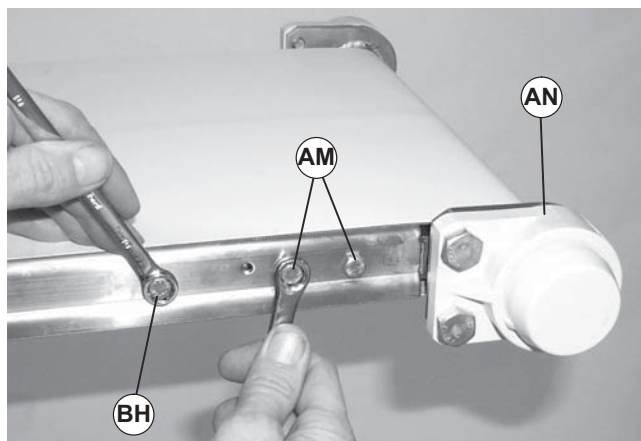

Figure 33
1. On tension end of the conveyor, loosen two M6 hex head cap screws (Figure 33, item AM) on each side of conveyor.